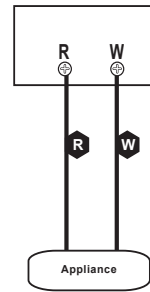

Figure 23.2
5. Connect your thermostat wire to the W and R terminals (Figure 23.2).